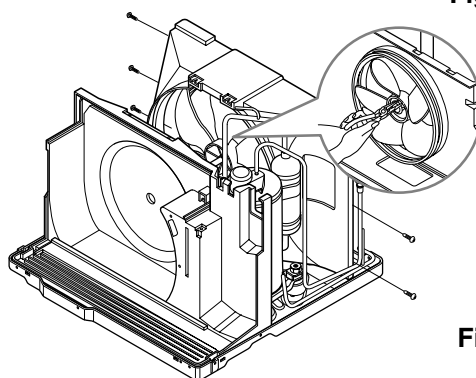

Figure 19
6. Remove the fan. (See Figure 19)